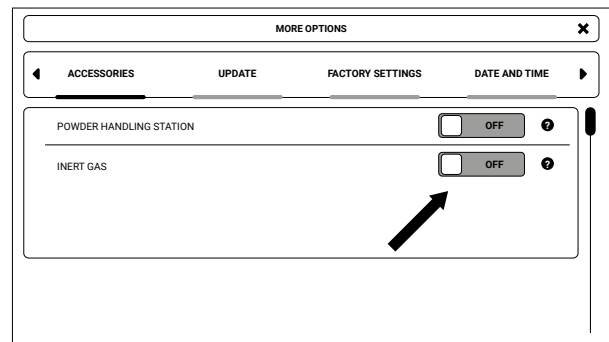

Fig. 10.2 INERT GAS activation in the printer.
3. Under the **ACCESSORIES** tab, switch to ON next to **INERT GAS** (fig. 10.2).